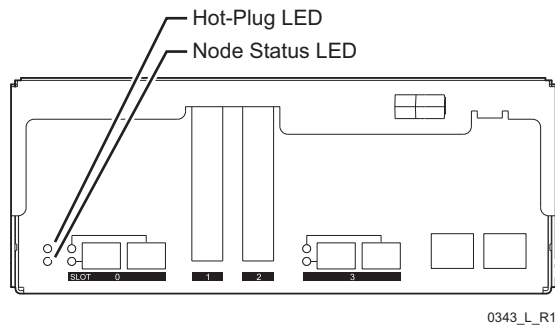

Figure 4-1. Hot-Plug LED and Power Status LED
- 7 Wait until the system has completed shutdown by observing that all controller nodes in the system have the Hot-plug LED solid amber and the Power Status LED blinking fast-green (a rate of three blinks per second) (Figure 4-1).